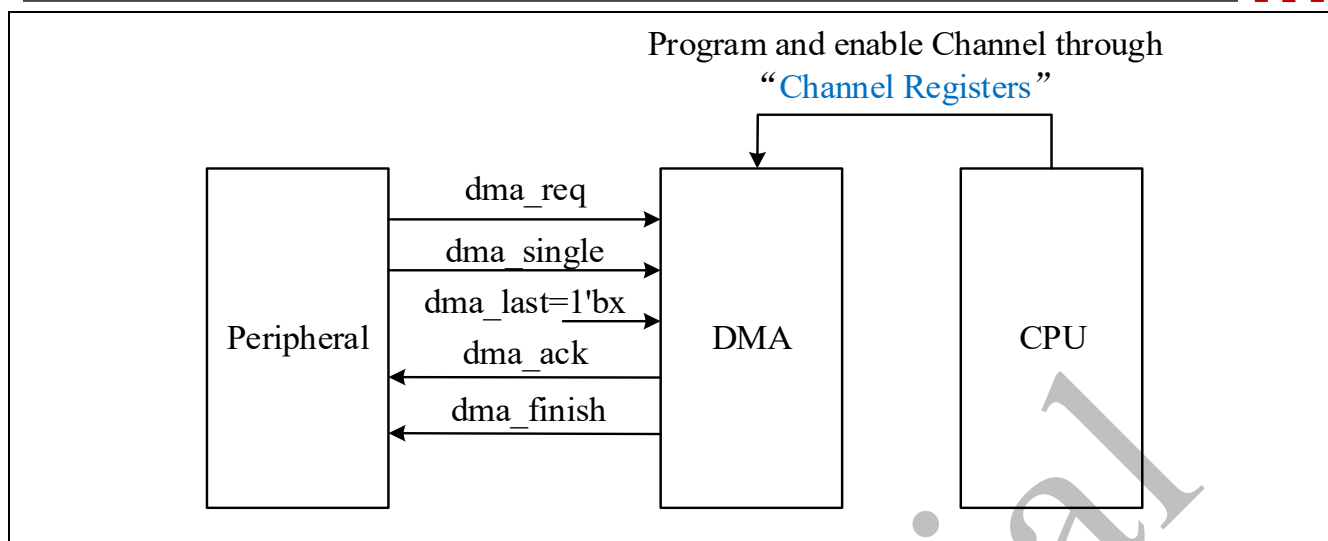

Figure 3-21 Hardware Handshaking Interface
- Figure 3-21 illustrates the hardware handshaking interface between a peripheral – whether a destination or source – and the DMA when the DMA is the flow controller.